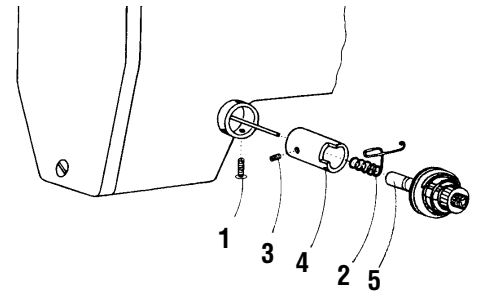

Fig. 23
24. Setting of the adjusting spring function (Fig. 23)